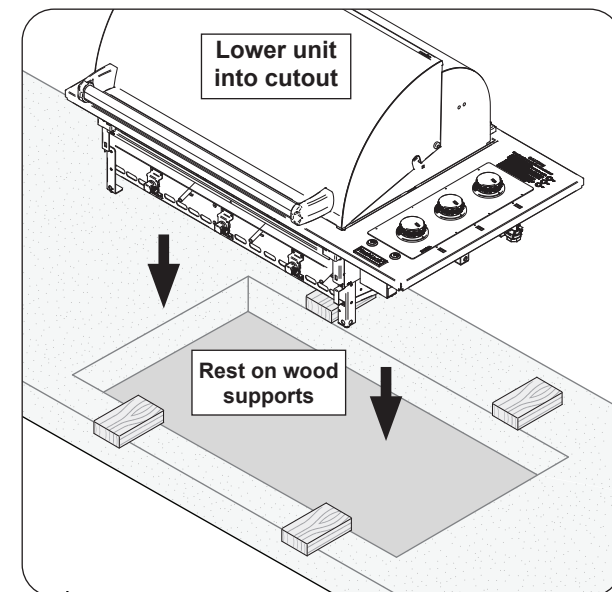

Fig. 29-4 Lower unit into cutout
3. Recommended: Place four 2x4 wood studs (or similar) as shown in Fig. 29-4. This will add safety when lowering the unit in place.